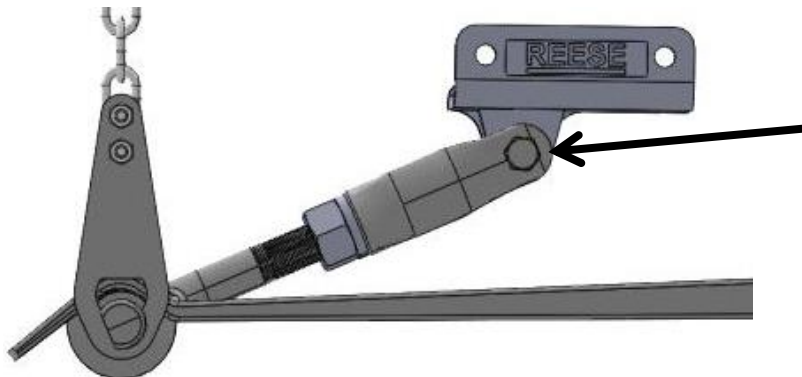

Figure 13
6. Check that the cam is properly seated properly in the detent of the spring bar (figure 13). If the cam arm assembly does not automatically seat in the detent of the spring bar, rap the end of the cam arm with a mallet or hammer until it seats into the spring bar detent as shown in figure 13.
2. Go to each cam arm and check to see that the cam is perfectly centered in the detent of the spring bar. Make adjustments to the cam arm length as required, it is important to have the cam arm/spring bar detent exactly as shown in figure 13.
3. Before adjustments to the cam arm length can be made, raise the trailer tongue jack and lower the snap-up brackets. Loosen the Locking nut (figure 5) and move the adjustment nut (figure 5) until the cam is centered into the detent of the spring bar (figure 13). After making adjustments, lift both snap-up brackets and install retainer clips; lower the trailer tongue jack. Repeat step 2 of this section